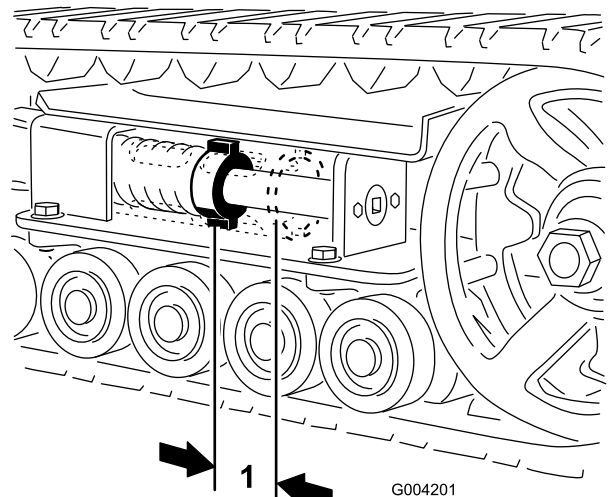
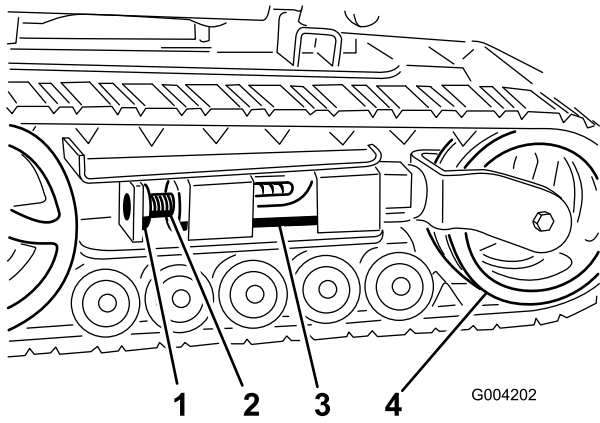
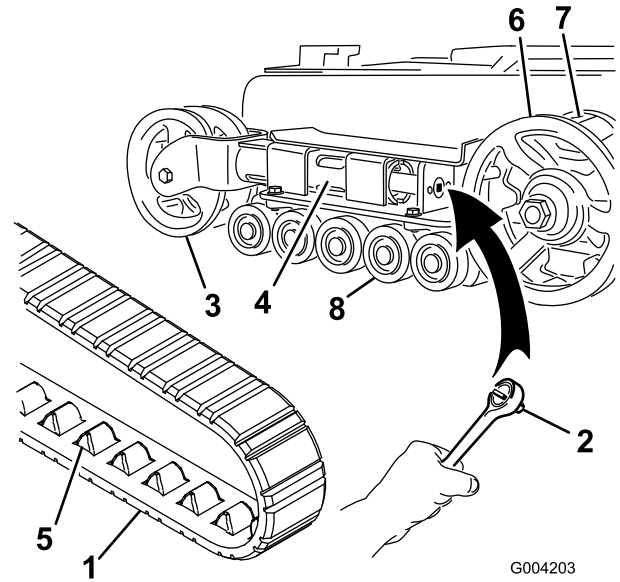
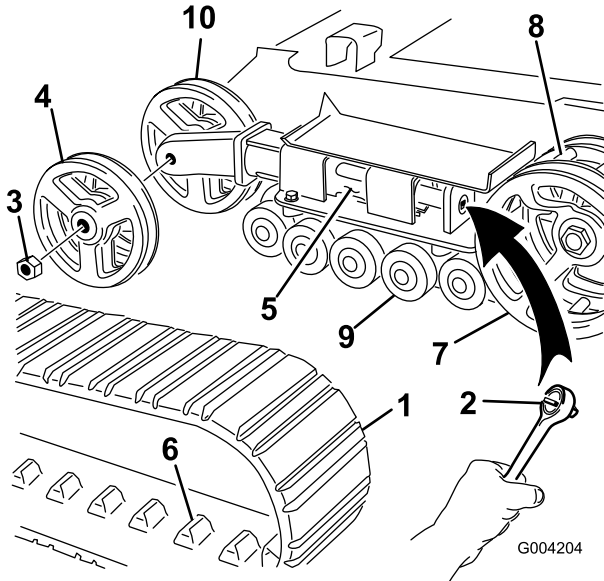

Figure 39
Figure 40
Figure 41
Figure 42
There should be 2-3/4 inches (7 cm) between the tension nut and the back of the tension tube (Figure 39). If not, adjust the track tension using the following procedure:
3. Remove the locking bolt and nut (Figure 40).
4. Using a 1/2 inch drive socket wrench (Figure 41), turn the tensioning screw counter-clockwise until the distance between the tension nut and the back of the tension tube (Figure 39) is 2-3/4 inches (7 cm).
5. Align the closest notch in the tension screw to the locking bolt hole and secure the screw with the locking bolt and nut (Figure 40).
4. Using a 1/2 inch drive socket wrench, release the drive tension by turning the tensioning screw clockwise (Figure 40 and Figure 41).
5. Push the tension wheel toward the rear of the unit to move the tension tube against the frame (Figure 41). (If it does not touch the frame, continue turning the tensioning screw until it does.)
7. When the track is off of the tension wheel, remove it from the drive sprocket and road wheels (Figure 41).
8. Beginning at the drive sprocket, coil the new track around the sprocket, ensuring that the lugs on the track fit between the cogs on the sprocket (Figure 41).
9. Push the track under and between the road wheels (Figure 41).
11. Turn the tensioning screw counter-clockwise until the distance between the tension nut and the back of the tension tube (Figure 39) is 2-3/4 inches (7 cm).
4. Using a 1/2 inch drive socket wrench, release the drive tension by turning the tensioning screw clockwise (Figure 40 and Figure 42).
5. Push the tension wheel toward the rear of the unit to move the tension tube against the frame (Figure 42). (If it does not touch the frame, continue turning the tensioning screw until it does.)
6. Remove the nut securing the outer tension wheel and remove the wheel (Figure 42).
7. Remove the track (Figure 42).
8. Remove the nut securing the inner tension wheel and remove the wheel (Figure 42).
12. Install the inner tension wheel and secure it with the nut removed previously (Figure 42).
14. Install the new track, ensuring that the lugs in the track fit between the cogs in the middle of the drive sprocket (Figure 42).
15. Install the outer tension wheel and secure it with the nut removed previously (Figure 42).
17. Turn the tensioning screw counter-clockwise until the distance between the tension nut and the back of the tension tube (Figure 39) is 2-3/4 inches (7 cm).